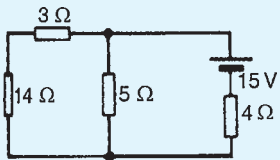

Figure 13.49
1. Use Thévenin's theorem to find the current flowing in the  $14\ \Omega$  resistor of the network shown in Fig. 13.49. Find also the power dissipated in the  $14\ \Omega$  resistor. [0.434 A, 2.64 W]